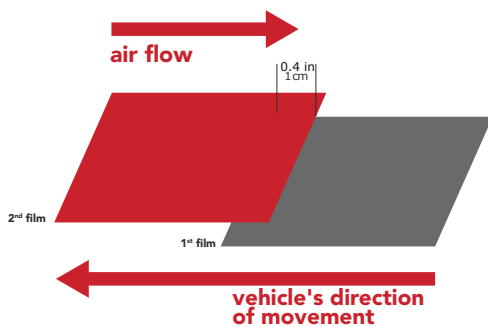

Figure 29
- Vertical overlap on a mobile surface: Assuming you always apply the film starting from the rear of the vehicle and moving to the front, then the overlapping will be done in the same way. (FIG. 29)